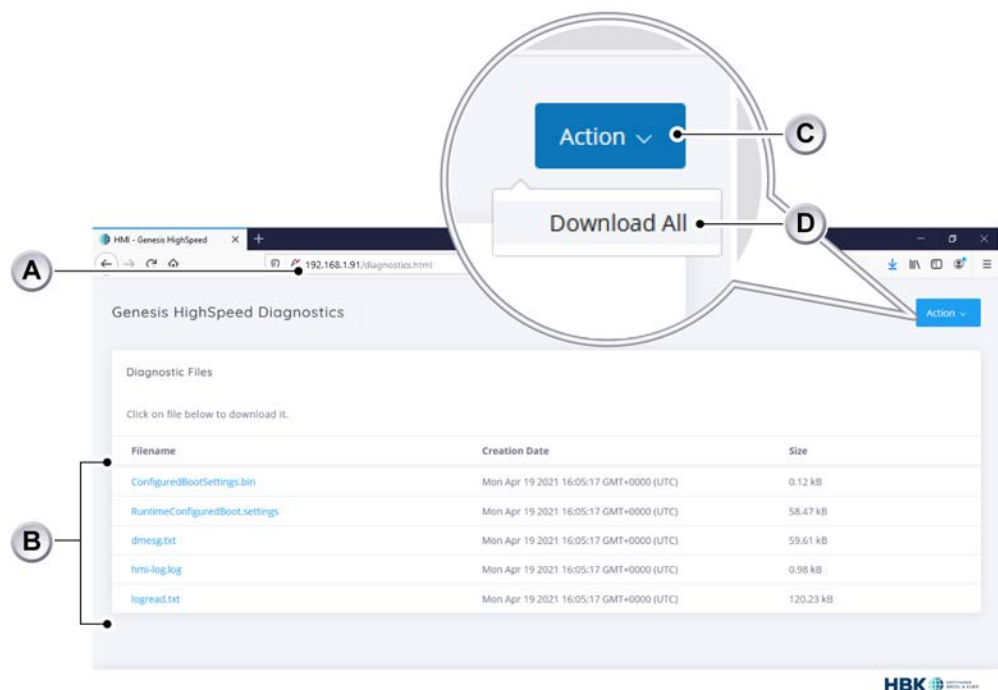

Figure D.44: Diagnostics web page
- 2 Enter the address of the equipment (IP address or network name) in the browser address bar (A). The following web page will be shown (see Figure D.44).
- 3 The diagnostic files (B) of the equipment will be listed on the web page (see Figure D.44). It is now possible to click on each file individually to download, or click the **Action** button (C) to download all diagnostic files at once (D).